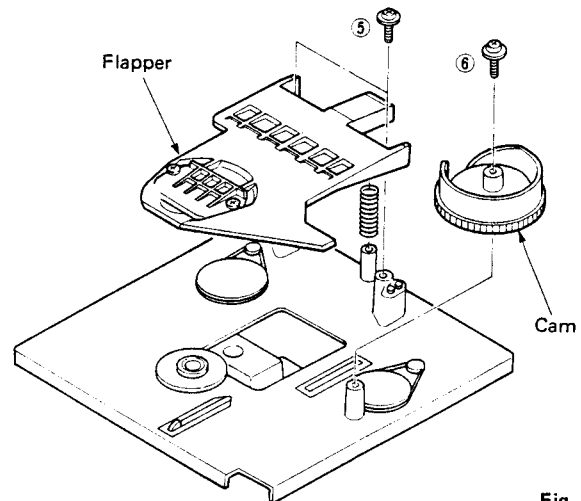

Fig. 5
- a. Remove 2 screws ( ⑤ ) fixing Flapper in Fig. 5 and then remove the Flapper.
- a. Remove screw ( ⑥ ) in Fig. 5 and then pull up the Cam.